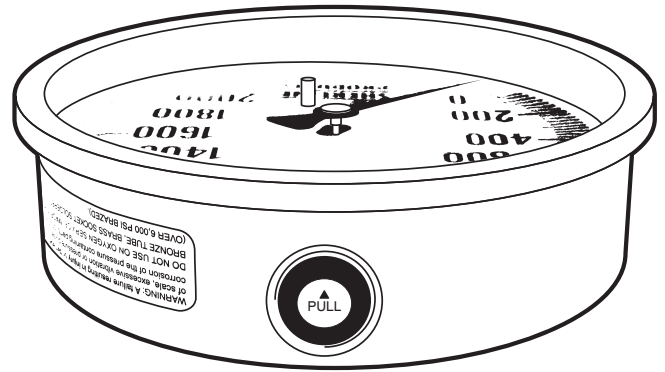

FIGURE 2—Shows the location of the blue, dust-cover button.
- **CAUTION:** There is a blue button on the side of the gauge on your new scale that says "PULL." DO NOT pull it. This is simply a dust cover for an access port that is used to fill the scale with glycerin from the factory. You should have no reason to add, or remove, any fluid from the scale (see Figure 2).